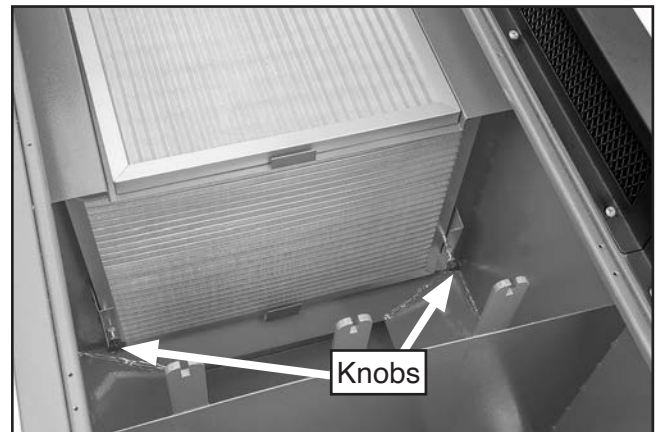

Figure 21. Lower filters secured by knobs.
3. Loosen filter knobs to remove lower filters (see **Figure 21**).